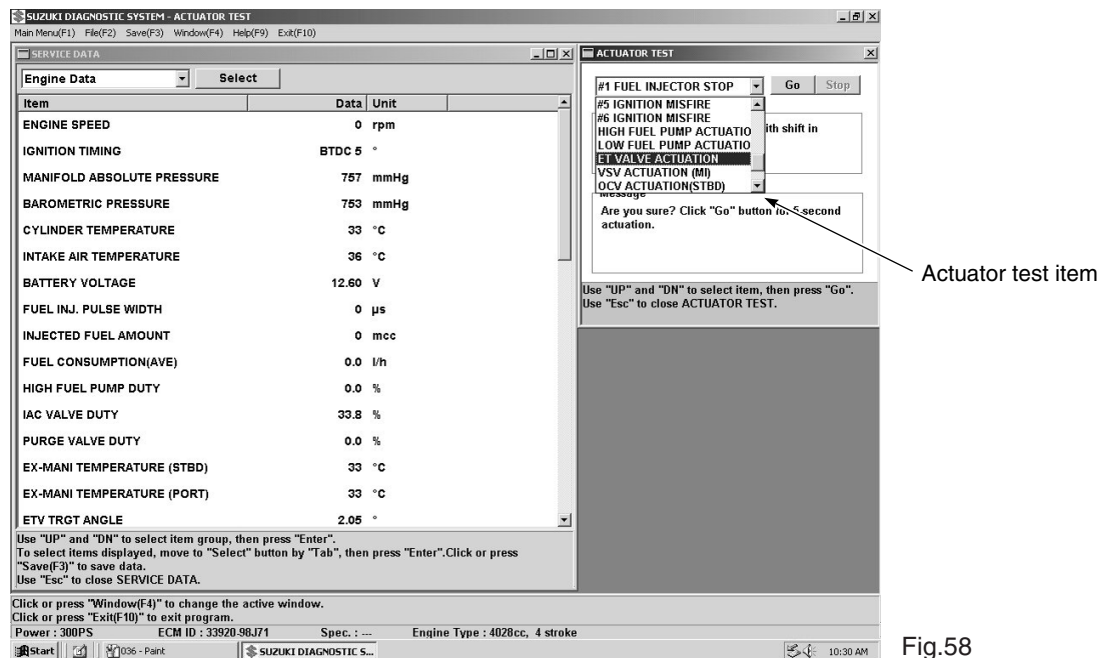

Fig.58
- In the ACTUATOR TEST window, click the ▼ button to select an actuator test item. (Fig.58)
3. Select "O₂ FEEDBACK" by clicking the ▼ button of the Actuator Test text box. (Fig.58)